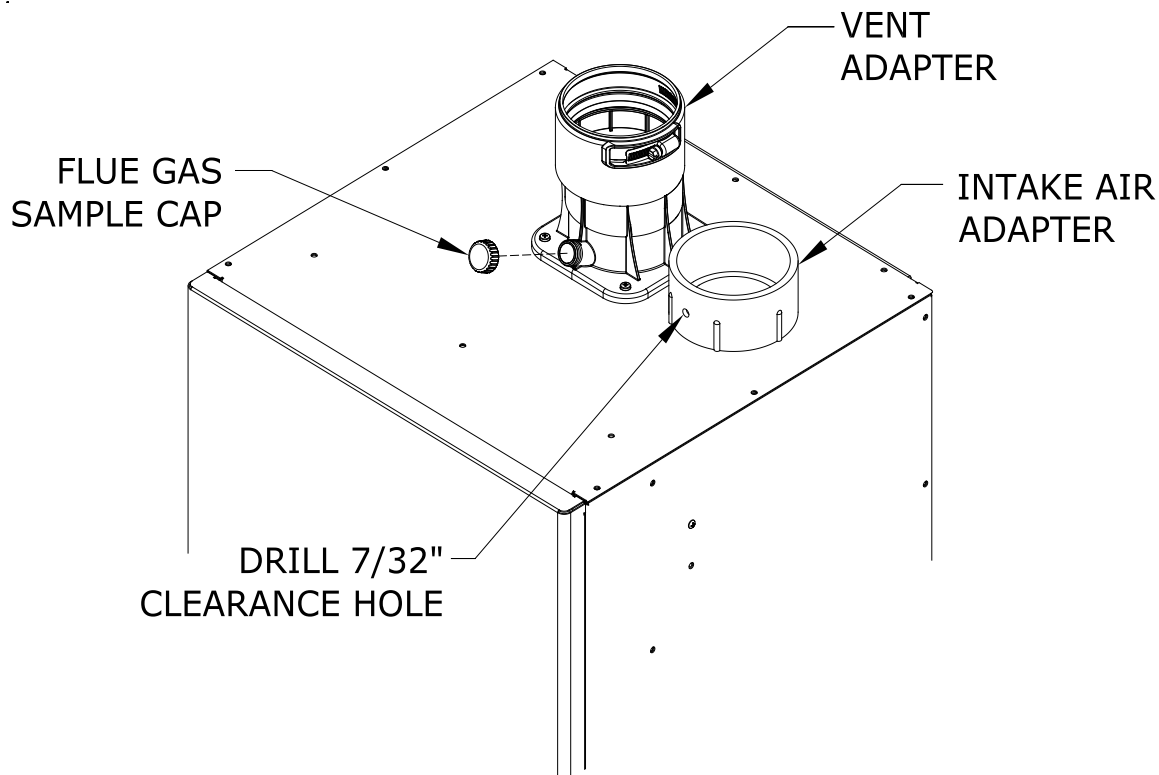

Figure 7.27: Vent Connections and Flue Gas Sample Cap Location
- Never leave the boiler in operation without the gas sample cap in place (Figure 7.27).
- a. The vent adaptor has three different inside diameters. The middle inside diameter accepts 3" nominal PolyPro (Figure 7.27). A locking band clamp in the adaptor prevents the vent pipe from coming out of the adaptor once it is installed and tightened. Lubricate the gaskets in the vent adaptor with soapy water and insert the first piece of 3" PolyPro into the adaptor until it bottoms out. Tighten locking band clamp to secure vent pipe.